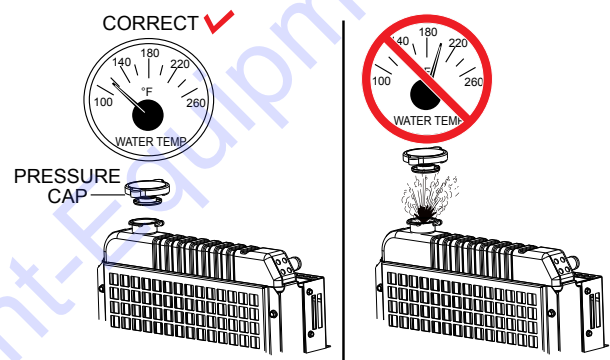

Figure 56. Radiator Pressure Cap Removal
1. Remove the radiator pressure cap (Figure 56) only if the coolant temperature is below 120°F (50°C).